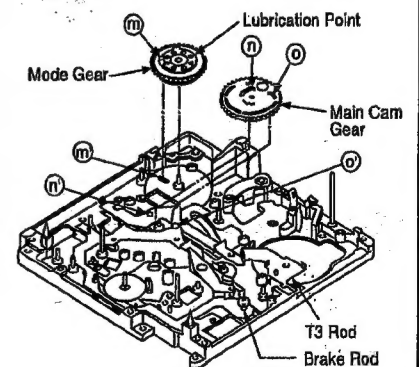

Fig. M30
- Fig. M30 Unscrew 2 screws (R) and remove Radon Plate.
- Fig. M30 Shift the T3 Rod slowly in the right direction until guide (n) on the Main Cam Gear meets the projection (n') on the T3 Rod.